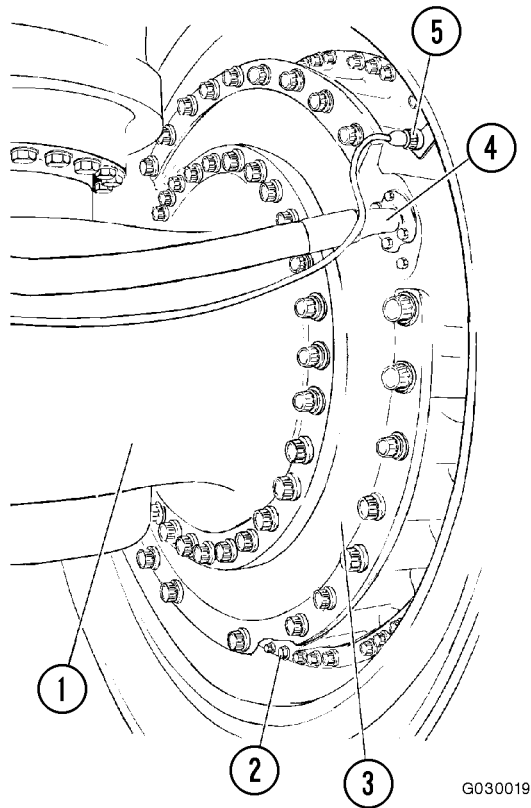

FIGURE 50-8. FRONT WHEEL & SPINDLE REMOVAL
5. Disconnect speed sensor connectors (5, Figure 50-8). Tie the cables back away from the spindle to prevent damage during spindle removal.
6. Disconnect brake cooling lines (4) at the inlet and outlet ports on the brake housing. Plug the hoses and ports to help prevent contamination.
9. Remove drain plug (2) and drain the oil from the brake housing and hub bearings into a suitable container.